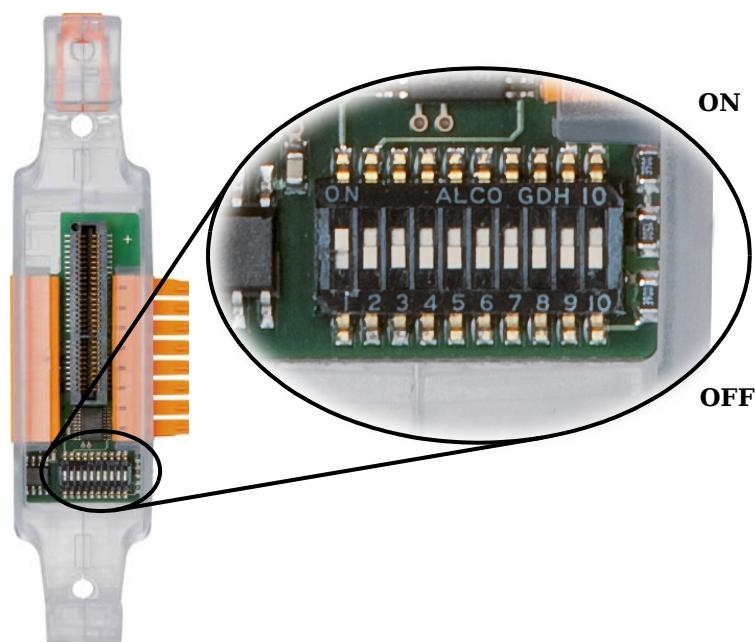

Fig. 4-1 DIP switches in the base, all DIP switches except the first one are OFF (address 1, hot swap activated).
The configuration of the operating mode occurs using the DIP switches in the base (Fig. 4-1). DIP switch 7 is currently not assigned any function and is reserved for later expansions.
Push the DIP switch 8 upwards (ON, refer also to Fig. 4-1 on page 22) to deactivate hot swap. Any content present in the EPROM is not read in this case and the module configuration is used. After plug-in - once the module excitation is present - the module configuration is automatically transferred into the socket and saved, so that the same configuration is present in the socket as in the module.
¹⁾ OFF = Switch down, ON = Switch up (Fig. 4-1)
- Push the DIP switches 9 and 10 upwards to activate the terminating resistances (refer to Fig. 4-1 on page 22).